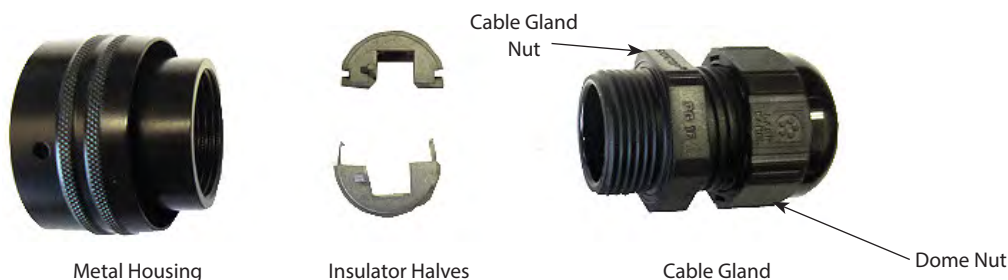

Figure 29: RJ45 plug components
- RJ45 Plug Assembly (PN: 66527-001) as shown in *Figure 29*